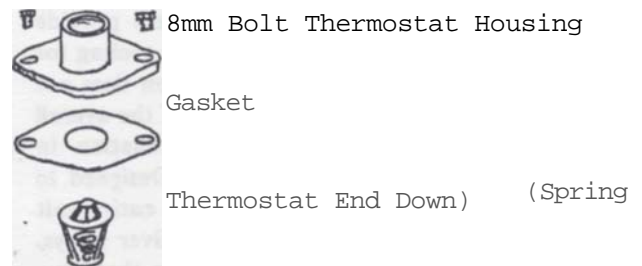

Figure 1
7. Retrieve from you SJE kit the new thermostat housing assembly (figure 1). Clean thermostat housing gasket surface on the intake manifold. Then install original thermostat with the thermostat housing on top. Position new gasket from kit on intake manifold. Be Sure Thermostat fits in the recess before tightening. Secure thermostat housing with (2) 8MM X 1" bolts and lockwashers. Tighten the bolts evenly and firmly.